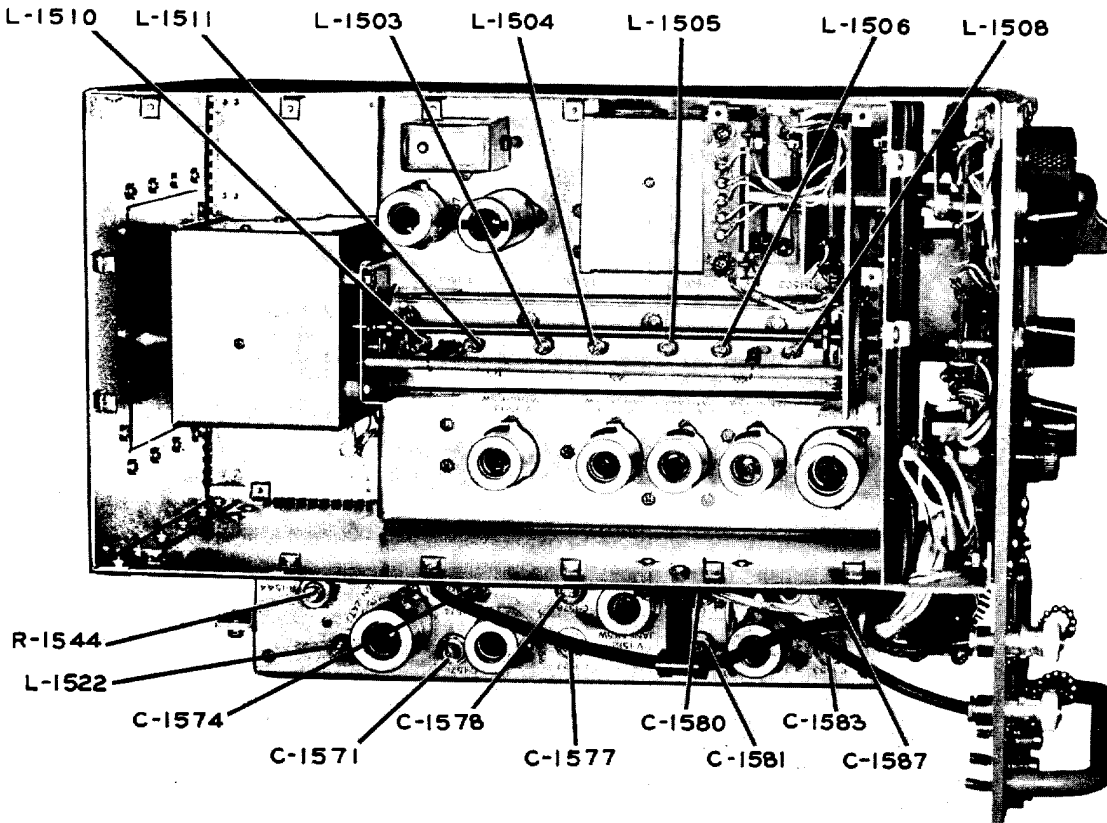

Figure 8-2. Signal Generator SG-13/ARN, Top R-f Chassis Alignment points.
m. Turn MEGACYCLES control to 108.5 and check for resonance with the tuning wand as in step h. If the circuit is not in resonance adjust the L-1508 slug in Z-1502. This adjustment is on the slug rack on top of the chassis. See figure 8-2.
h. Check the univertter output to make sure it is uniform within ± 15 percent over the frequency range 329.3 - 335.0 mc. This can be done by checking Signal Generator SG-13/ARN against an SG-2 signal generator. Set the SG-2 attenuator microvolts dial at 500 and feed a 332-mc signal into an ARN-18 Glide Slope receiver through a 53-ohm 6-db pad (Adapter UG-528/U). See figure 8-6. Note the receiver avc voltage. Substitute the SG-13/ARN for the SG-2, using the same frequency setting and 6-db pad with the MICROVOLTS dial set at 1000. (Use GS output connector.) Adjust R-1544 (figure 8-2) on the univertter to duplicate the avc reading noted above.